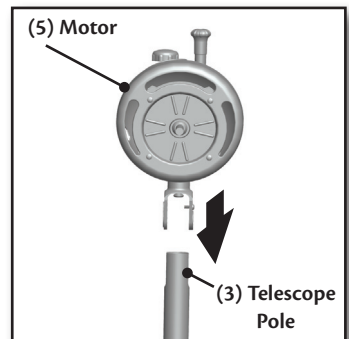
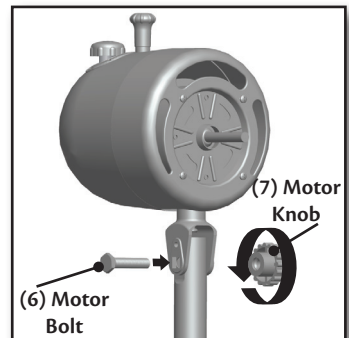

Figure 8.
Figure 9.
3. Set the Motor(5) on top of the Pole(3), Figure 8., and Secure using the Motor Bolt(6) and Knob(7). Figure 9.